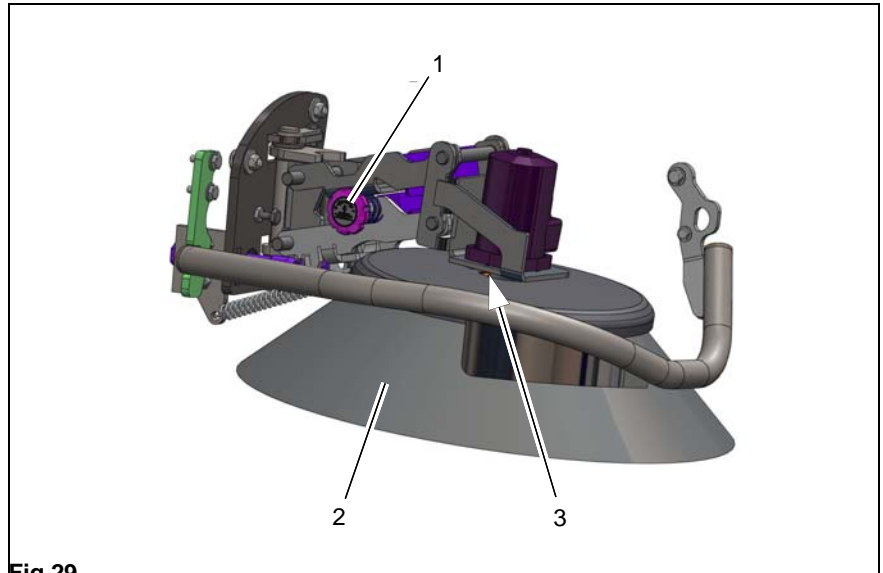

Fig.29
Check the side brushes (Fig. 29/2) every week for signs of wear. In the event of wear or after the side brushes have been changed, proceed as follows to complete the necessary adjustments:
2. Adjust the contact surface of the side brush (Fig. 29/2) using the adjusting bolt (Fig. 29/1). The contact surface of the side brush should be approx. $\frac{2}{3}$ of the brush circumference.
2. Loosen the screws and washers on the catch (Fig. 29/3) and remove the side brush (Fig. 29/2).